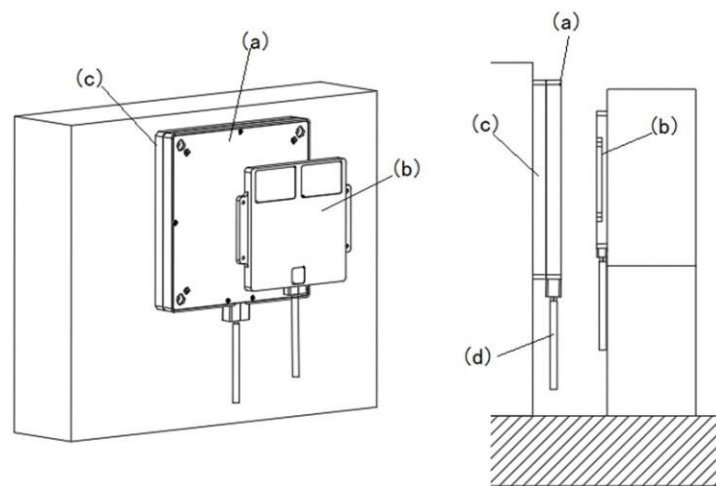

Fig 13 – Install the transmitter coil
- The operator must ensure that there are no persons with a cardiac pacemaker or metal implants in the danger zone (see Figure 13).